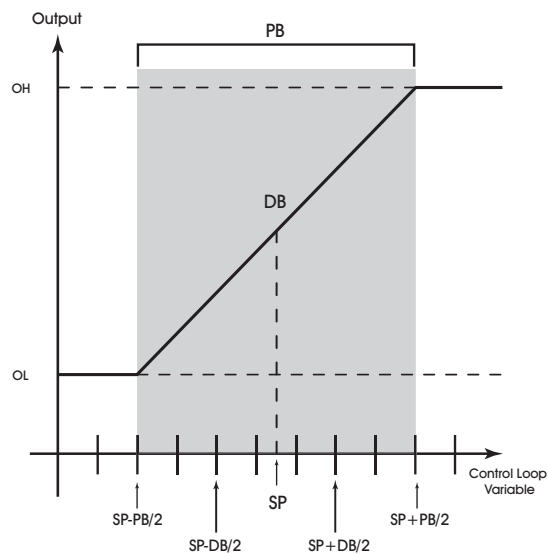
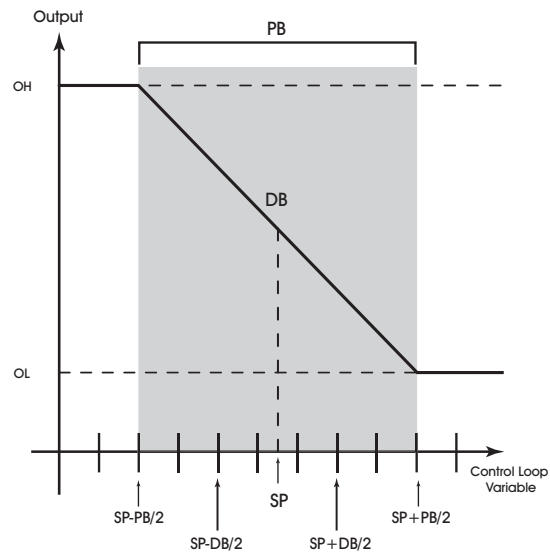

Figure 4-7: Proportional Band Control
Figure 4-8: Proportional Band for Reverse Acting Control ($SG = 1$)
To determine **PB**, first decide how closely the SBC-FHC must control the output to the setpoint. For instance, if the setpoint is 72°F, then an acceptable control range might be within two degrees of the setpoint. This control range can be expressed as a band centered on the setpoint: from 70° to 74°, or 4 degrees—the *proportional band (PB)*. Refer to Figure 4-7 and Figure 4-8.
For normal acting control loops (see Figure 4-7), **PO** is set to maximum output when the input variable equals the setpoint plus half of the proportional band ($CS + PB/2$). The point **PO** is set to minimum output when the input variable equals the setpoint minus half of the proportional band ($CS - PB/2$). These associations are reversed for reverse acting control loops. See Figure 4-8. **PO** will be midway between minimum and maximum output when $MV=CS$.